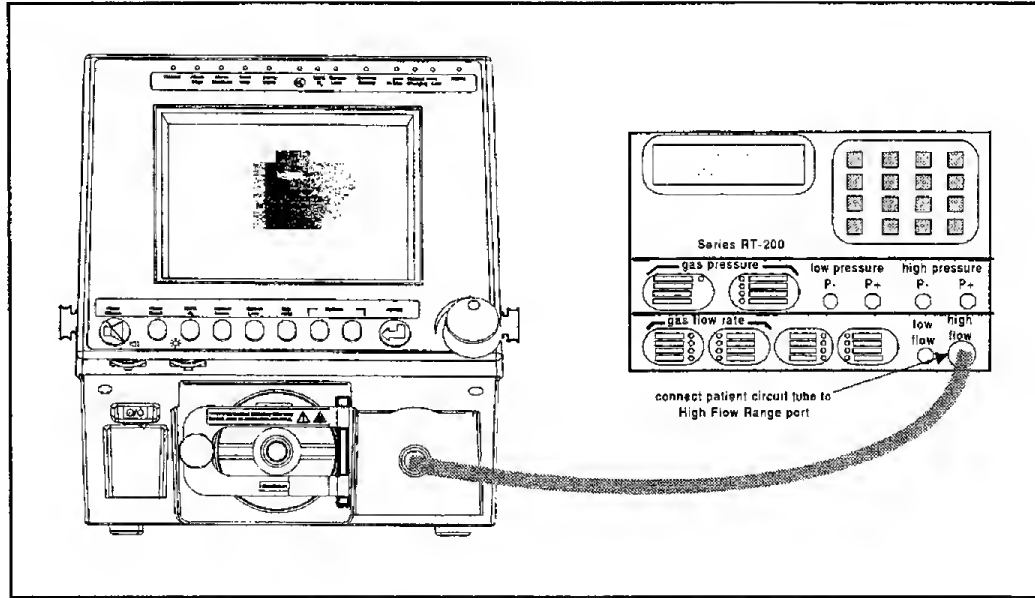

Figure 6-5: Maximum Flow Test Configuration
2. Connect the RT-200 to the ventilator as shown in Figure 6-5.